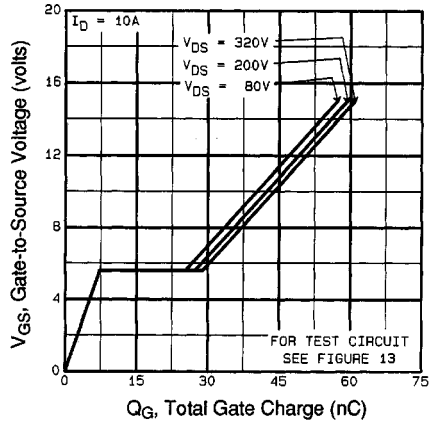

Fig 6. Typical Gate Charge Vs. Gate-to-Source Voltage
| Q _{gd} | Gate-to-Drain ("Miller") Charge | — | — | 32 | | V _{GS} =10V See Fig. 6 and 13 ④ |